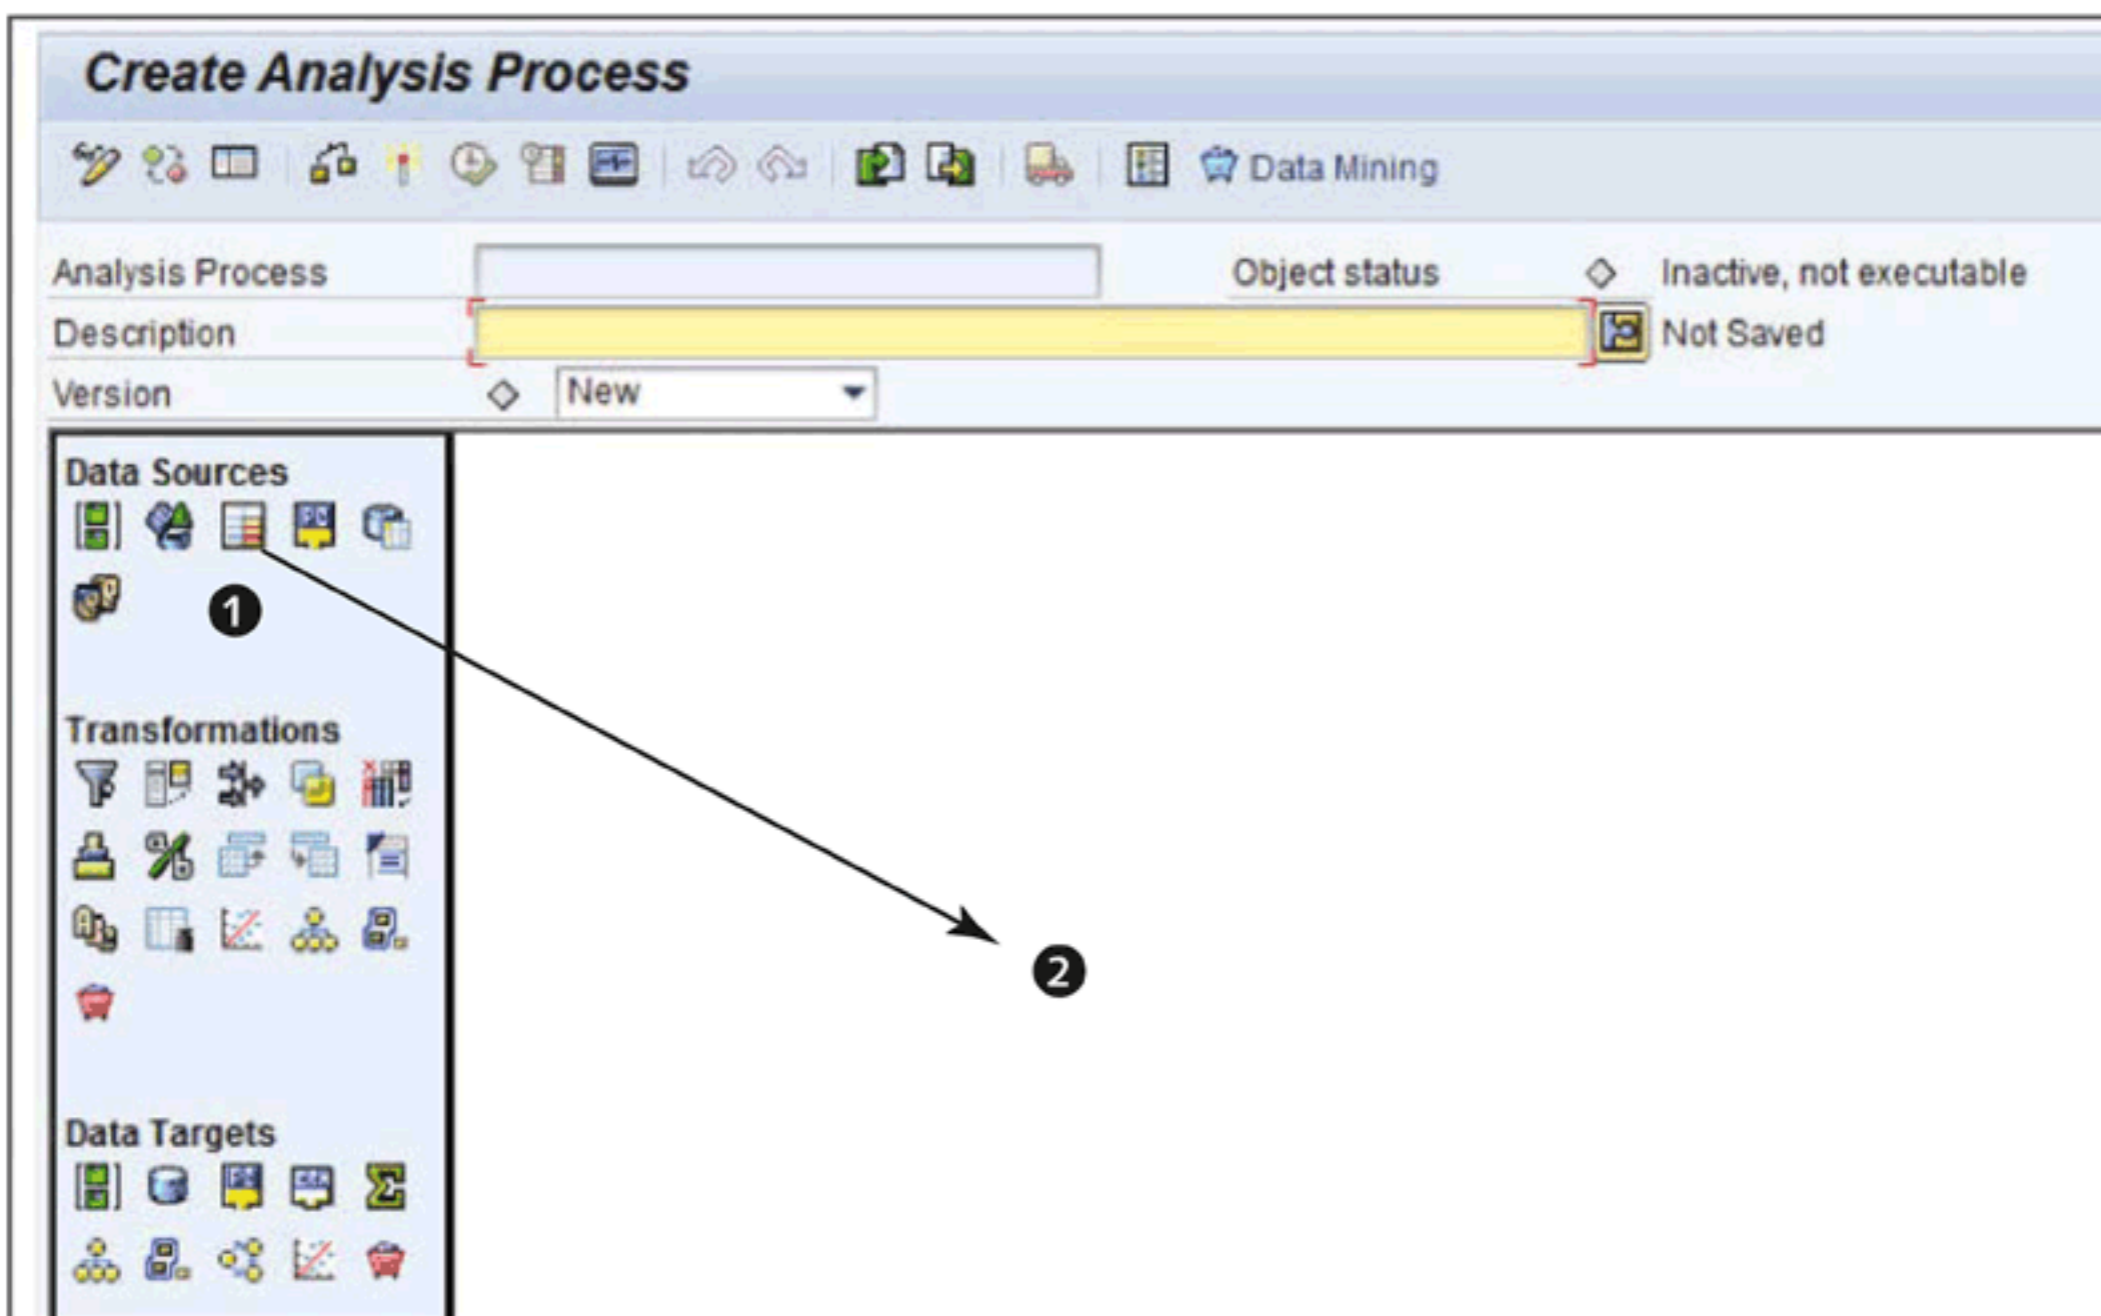
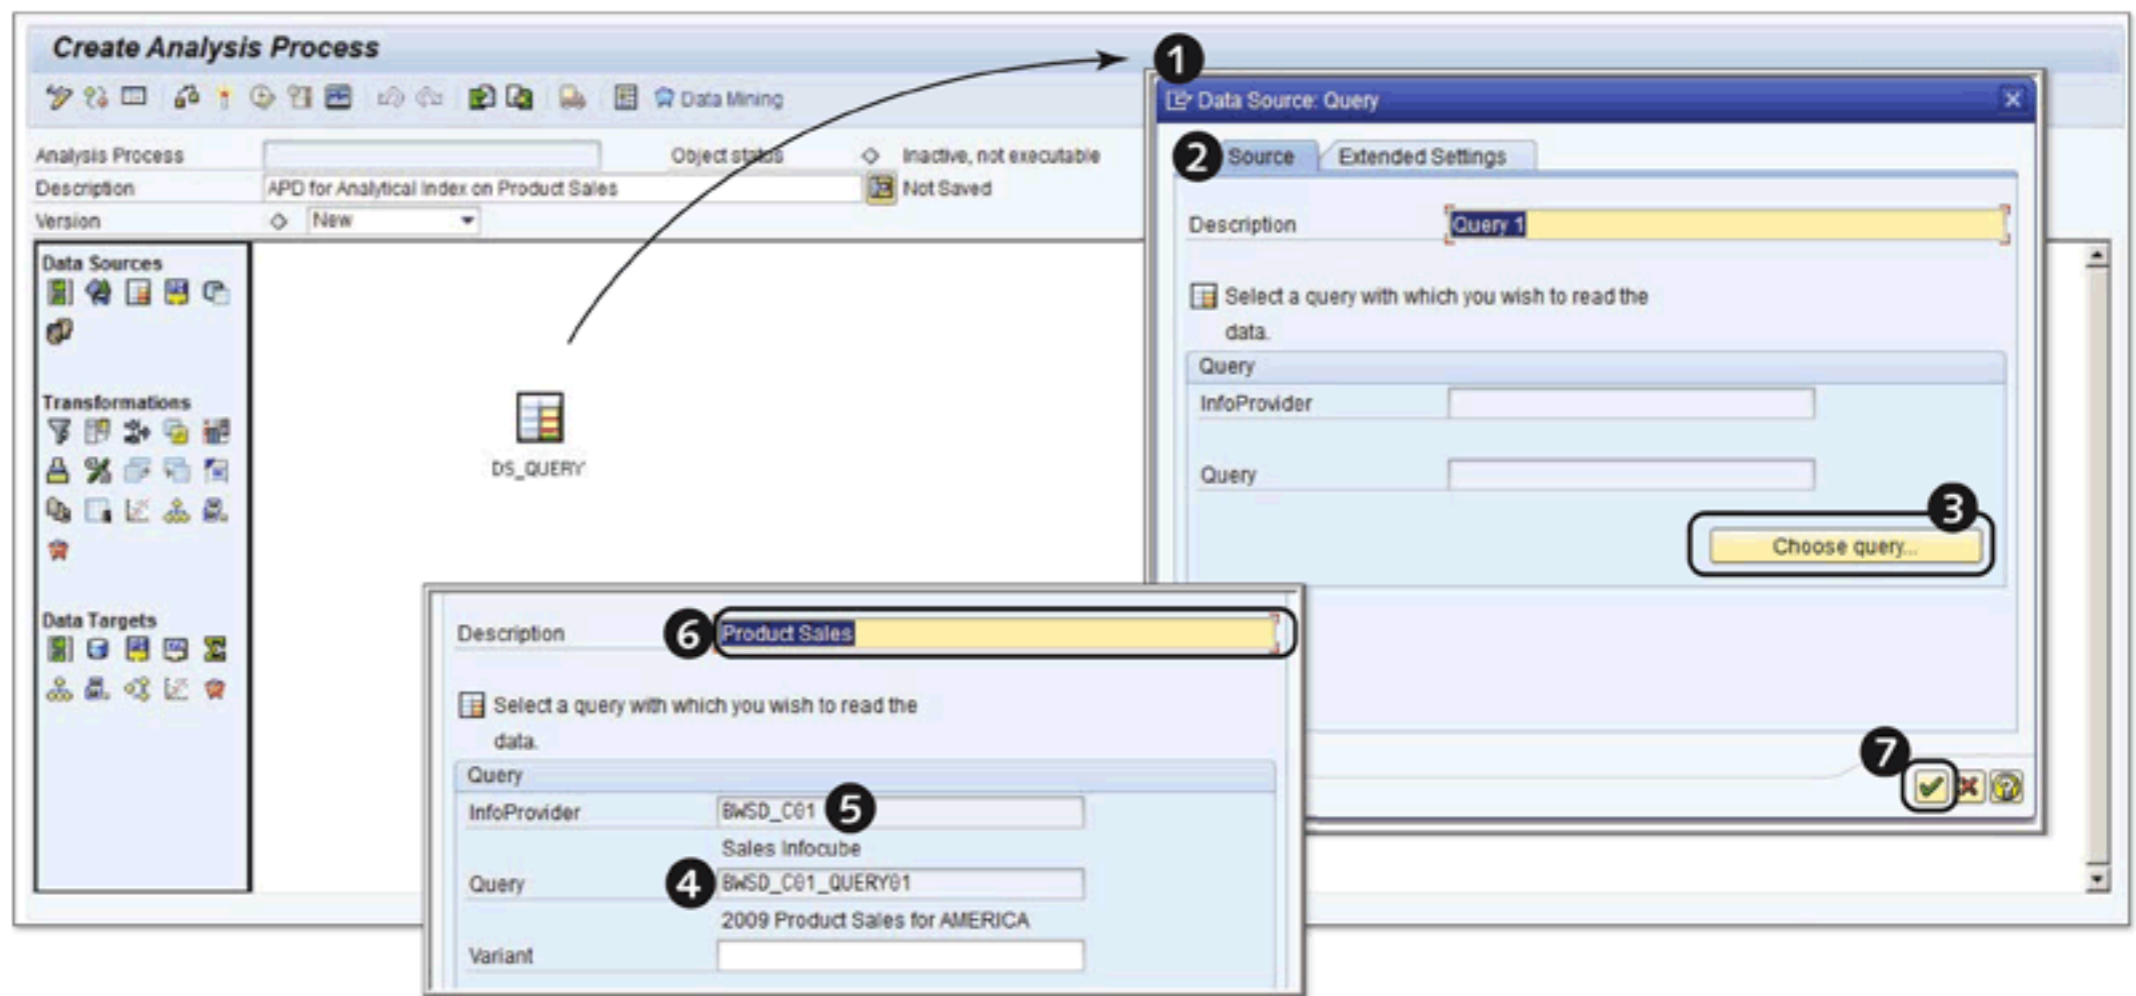
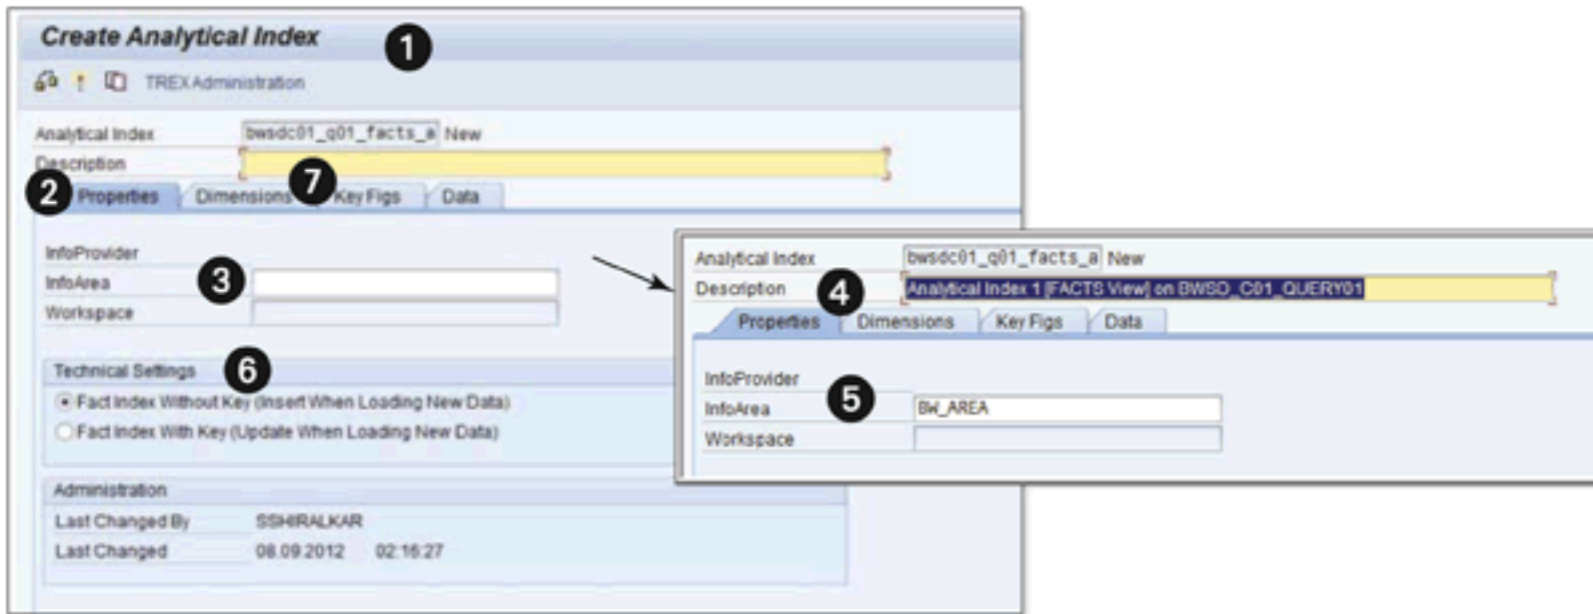

Figure 15.12 Create Analysis Process
Figure 15.13 APD: Assigning Query as DataSource
Figure 15.16 Analytical Index: Properties Tab
To create an analytical index, start the ANALYSIS WORKBENCH using Transaction RSANWB. The CREATE ANALYSIS PROCESS SCREEN is displayed, as shown in Figure 15.12. We use the query BWSD_C01_QUERY01, which we designed in Chapter 9 as a data source for the APD. Select the QUERY icon (❶ of Figure 15.12) and drag and drop it on the right panel (❷). This action brings up the DATA SOURCE QUERY pop-up box, as shown in ❶ of Figure 15.13.
Select the FACTS data view (5). Click on the CREATE icon (8), which brings up the GENERATE PROPOSAL FOR NEW ANALYTICAL INDEX pop-up box. In the ADD STRUCTURE FROM NODE screen, the DataSource available in the current APD is displayed. Select PRODUCT SALES (which is the default action) (refer to 6 of Figure 15.13), and click on OK to continue (10). This action connects PRODUCT SALES to the analytical index and opens the CREATE ANALYTICAL INDEX screen, as shown in Figure 15.16.
As shown in 1 of Figure 15.17, the system reads the definition of the query (which is taken as the DataSource) and displays the name accordingly. You can select the data type for each element of the query (2). If you have selected **FACT INDEX WITH KEY** (6 of Figure 15.16), you can flag the dimension as part of the key (3). This is grayed out because we have selected the **FACT INDEX WITHOUT KEY** setting. You can define the attribute of each dimension (4), and descriptive text can be entered for each element (5). There is also an option to assign an InfoObject